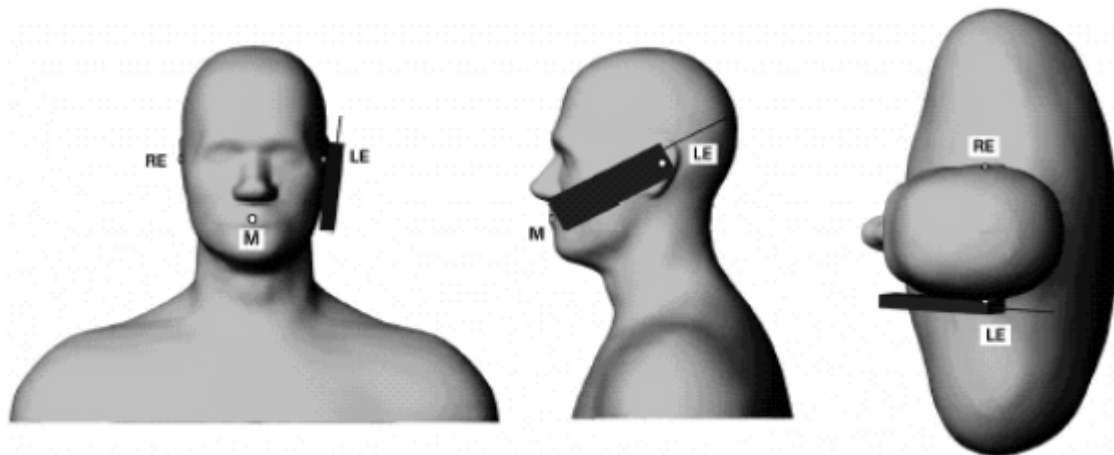

Figure 4.2 – Phone position 1, “cheek” or “touch” position.
- c. Position the handset close to the surface of the phantom such that point A is on the (virtual) extension of the line passing through points RE and LE on the phantom (see Figure 4.2), such that the plane defined by the vertical center line and the horizontal line of the handset is approximately parallel to the sagittal plane of the phantom.
- g. While maintaining the vertical centerline in the reference plane, keeping point A on the line passing through RE and LE and maintaining the handset contact with the pinna, rotate the handset about the line NF until any point on the handset is in contact with a phantom point below the pinna (cheek). See Figure 4.2 the physical angles of rotation should be noted.